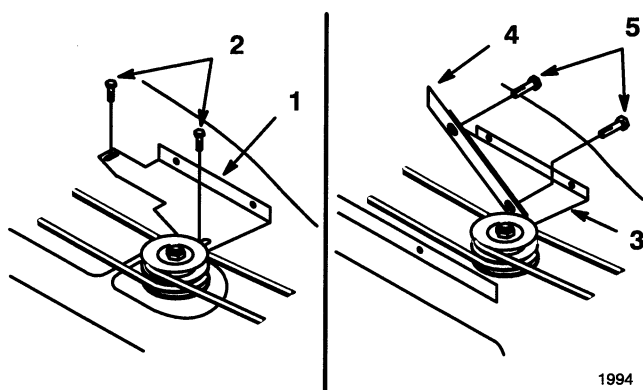

Figure 19
20. On 42" mowers mount belt cover using (2) 1/4 x 1/2" thread forming flange screws in holes used by original cover (Fig. 19).
21. On 48" mowers mount belt cover bracket to the rib on the top of the mower using (2) 1/4 x 3/8" flange screws (Fig. 19).